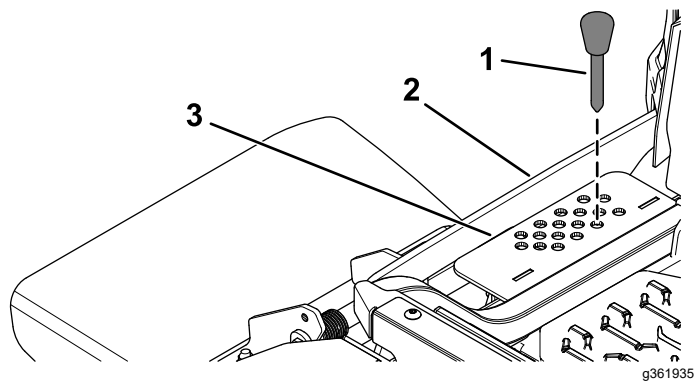

Figure 32
2. Select a hole in the height-of-cut bracket corresponding to the height of cut desired, and insert the pin (Figure 32).
3. Push down on the deck-lift switch until the height-of-cut linkage slightly contacts the height-of-cut pin (Figure 32).